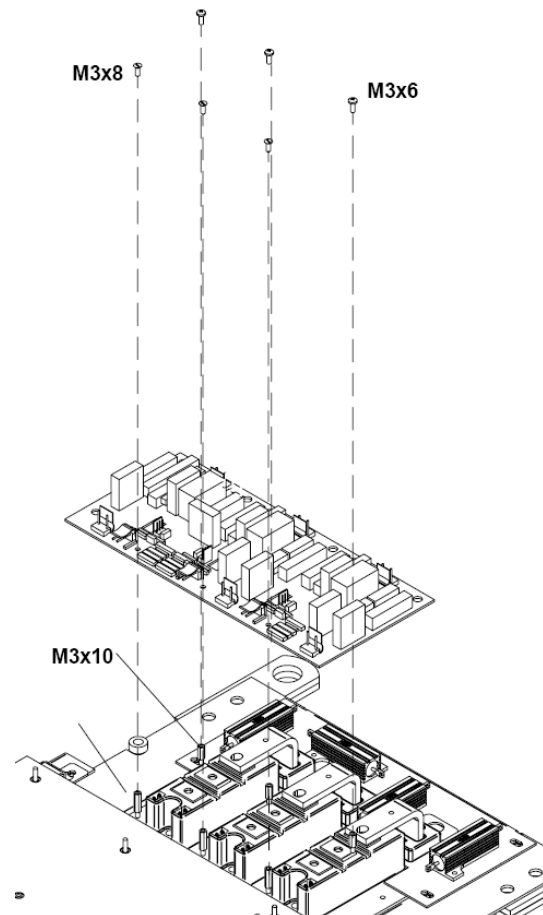

Figure 3.9. (c) Disassembly of the Snubber, Trigger and Soft charge protection
- 6) Connect all output wiring (figure 3.9(b))